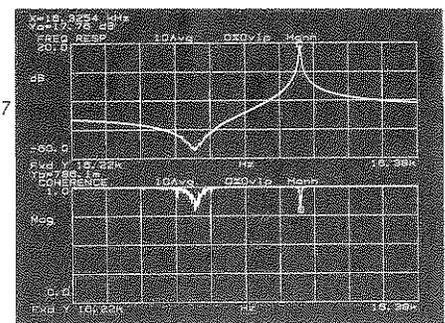

Figure 2-7
- 4. Coherence** Press the **MEAS DISP** key, then select the **COHER** softkey to display the coherence function. The display should be similar to Figure 2-7.